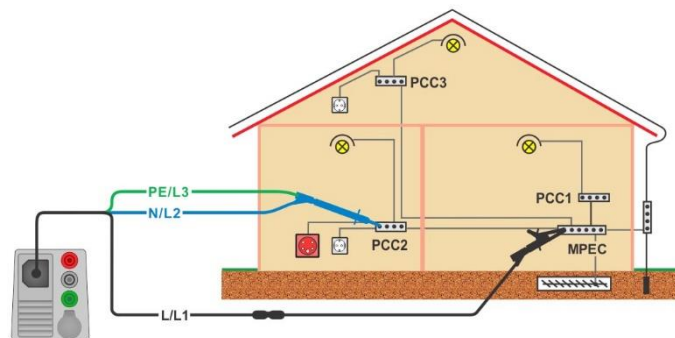

Figure 7.23: Connection of 3-wire test lead plus optional Extension lead
- Connect test leads, see *Figure 7.23*.